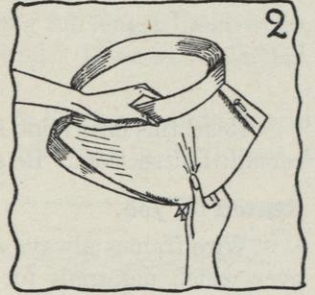

FIG. 2.
- (1) The *smooth* side of willow must go to the face, so that the willow will not crack.
- (2) Stretch fullness out in the bias parts of the headsize, either as shown in Figure 22 of Job 7 (page 28) or by pulling down at edge, as shown in Figure 2, or by pulling up into the headsize in the opposite direction from Figure 2.